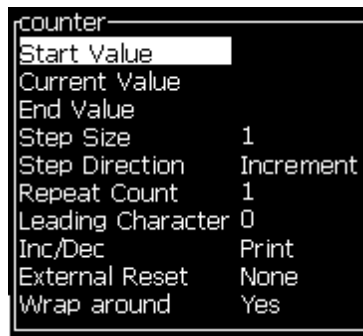

Figure 5-33: New Counter Dialog Box
- 4 Press the *Enter* key to open the counter dialog box for counters (see Figure 5-33).
- 5 Set the values for all the fields in the *Counter Configuration* dialog box (see Figure 5-33).